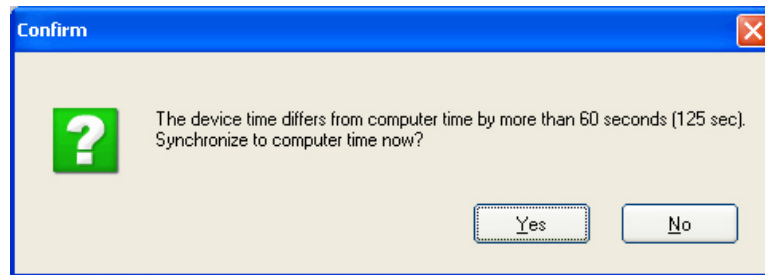

Figure 4.3—Prompt for authorizing time and date synchronization
3. If the internal time and date programmed into the instrument differs from the time and date displayed on the computer by more than 60 seconds, the software will prompt the user to synchronize the instrument time/date to match the computer time/date (Figure 4.3, page 39). This ensures that the instrument displays correct time, regardless of time zone differences.